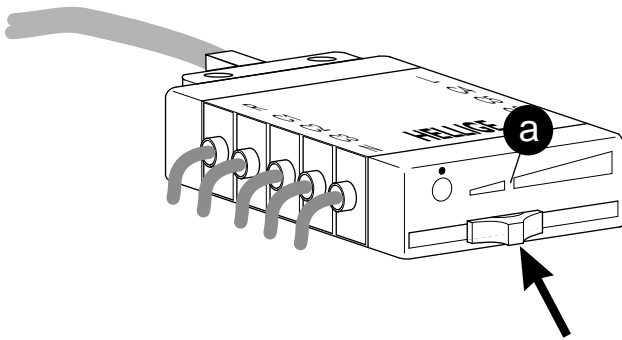

Figure 4-1. Negative pressure control at electrode distributor
**☞ For standard applications the negative pressure control should be set to the gap in the arrow marker (a, Figure 4-1). This setting is in most cases sufficient for resting ECGs, while exercise tests will require a slightly higher setting. Be careful to determine the correct negative pressure level required in the respective situations. Be aware that excessive negative pressure settings and prolonged electrode application times may provoke hematomas (change electrode sites, if required). When using the system on small children or other patients with delicate skin, do not choose negative pressure settings in the upper range.**
- \* Set the negative pressure control to the standard position (a, Figure 4-1).